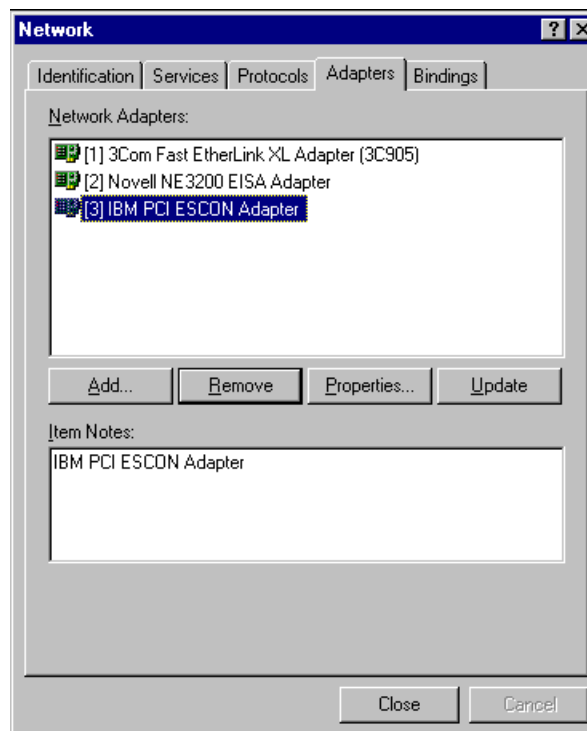

Figure 3-7. Network Settings with Netfinity ESCON Adapter
7. To complete installation click **OK**. You will be returned to the **Network** dialog. The IBM PCI ESCON Adapter will now appear in the list of network adapters (Figure 3-7).